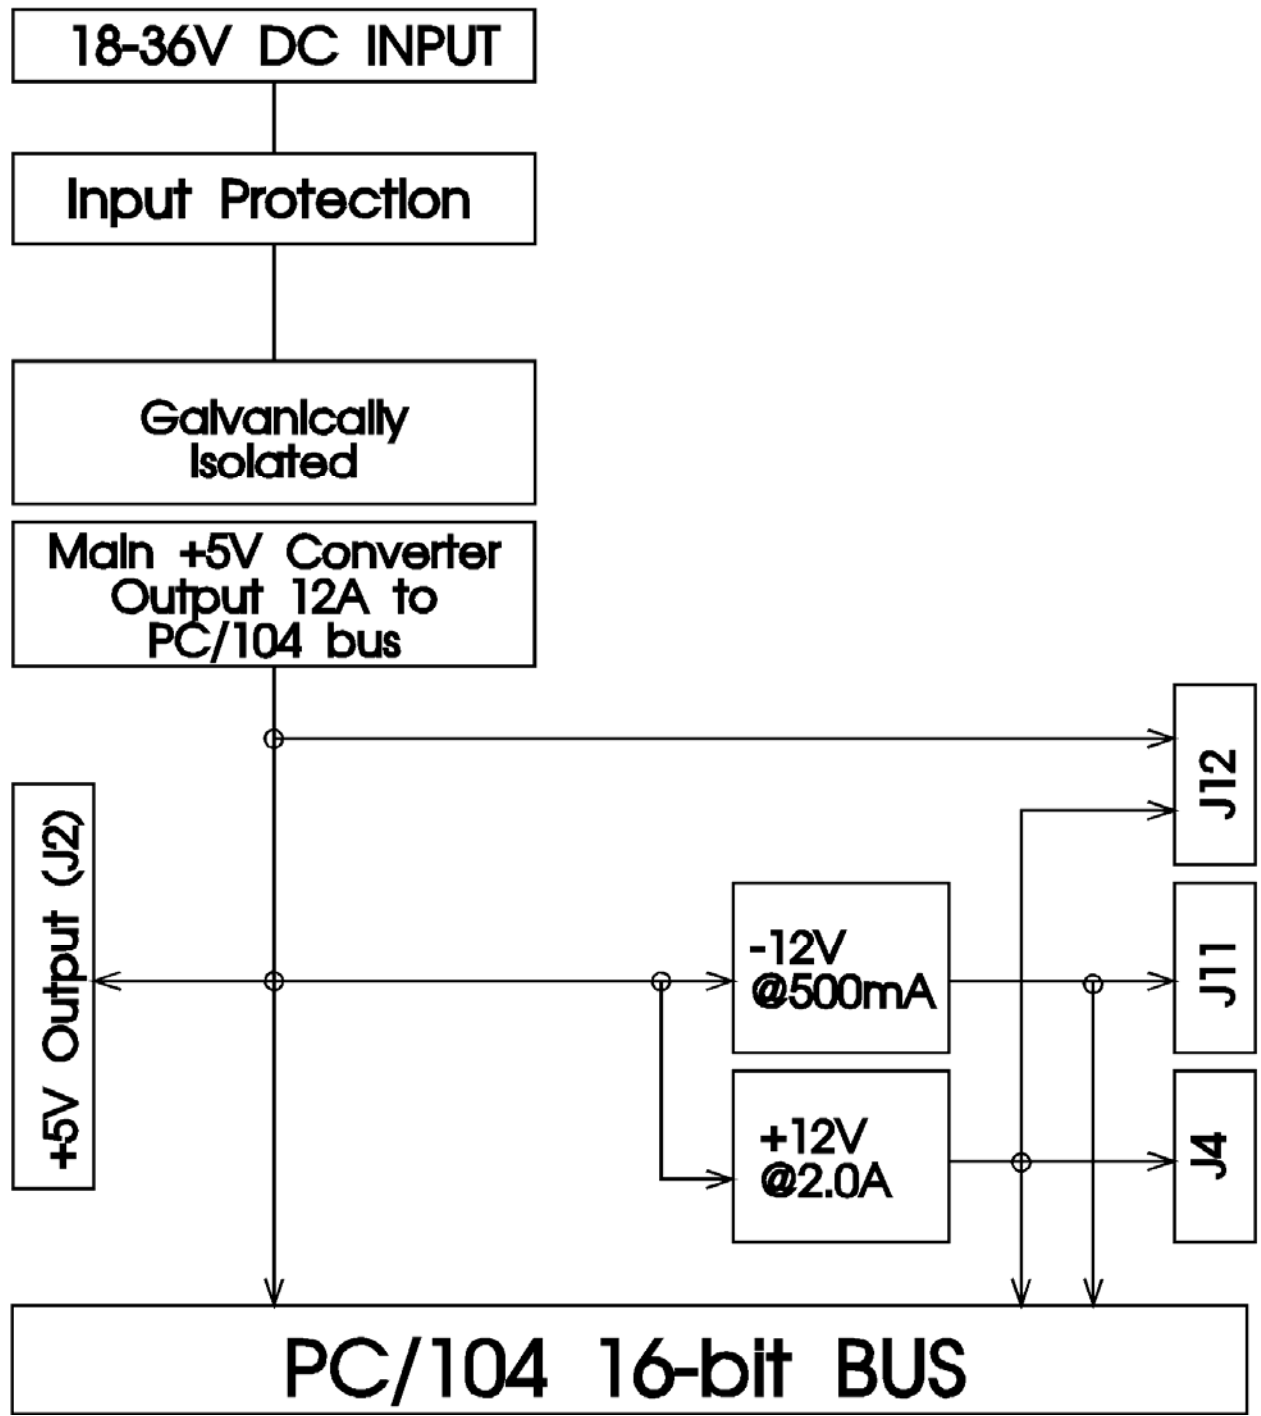

Fig. 2-1 Block diagram of the IPWR104HR-L (-H has a 33-75V input range)
- Fig. 2-1: IPWR104HR Block diagram**